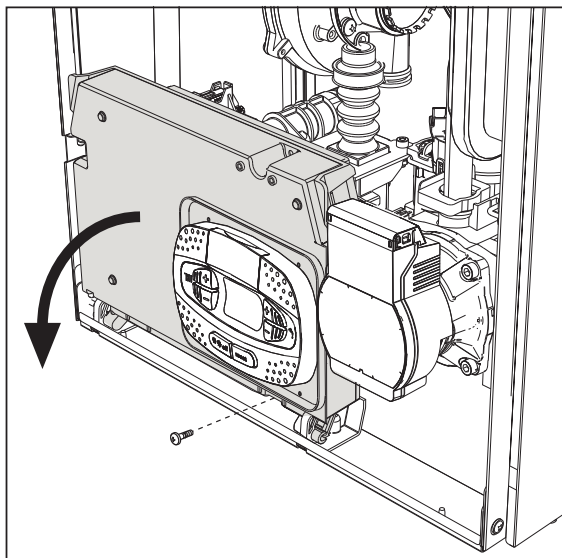
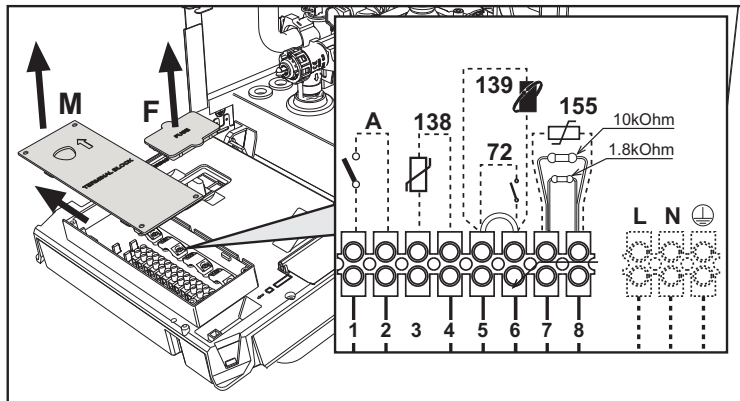

fig. 20
fig. 21
Remove the front panel ( \*\*\* 'Opening the front panel' on page 177 \*\*\* ) to access the terminal block (M) and fuse (F) by proceeding as follows (fig. 20 and fig. 21). **The terminals indicated in fig. 21 must be with voltage-free contacts (not 230V).** The arrangement of the terminals for the various connections is also given in the wiring diagram in fig. 57.